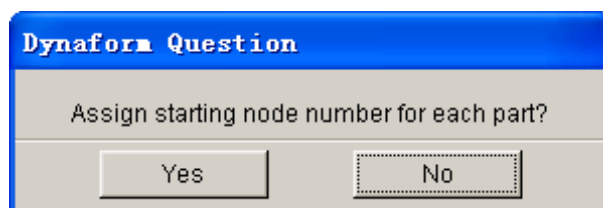

Figure 5.4.4 Starting Node Number Question dialog box
- A eta/DYNAFORM QUESTION dialog box as illustrated in Figure 5.4.4 is displayed.